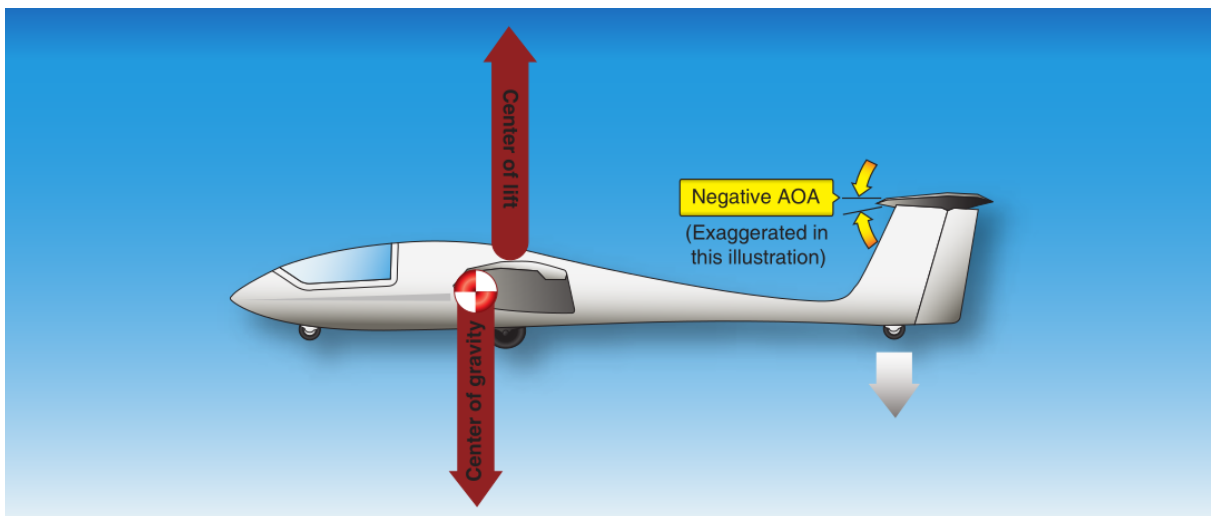

Figure 4.1: Increasing longitudinal stability by placing CG in front of CL and negative AOA of horizontal stabilizer.(United States 2013)
Gliders are designed to be slightly nose heavy in order to improve their longitudinal stability (shown in fig. 4.1). This causes the glider to tend to nose down during normal flight (United States 2013). In other words the center of gravity (CG) must be in front of center of lift (CL).